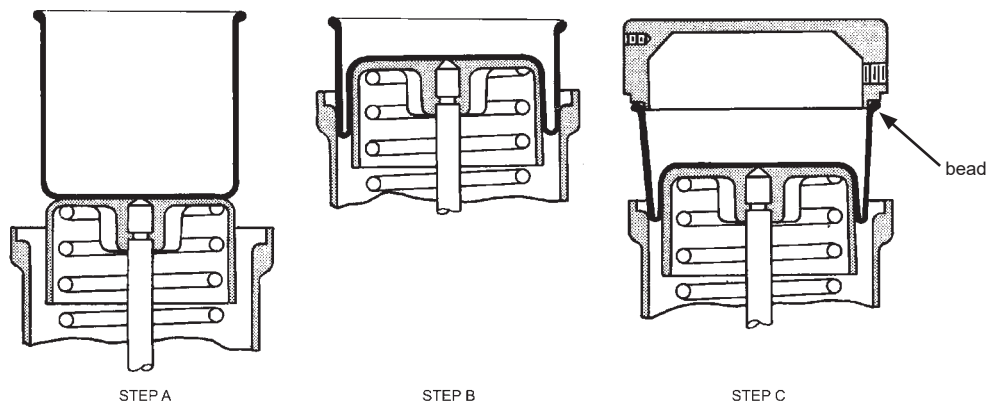

Figure 7 - Method 1
- H-1.** The inscription "Piston Side" is located on the diaphragm (40). If used, apply cement to this side of the diaphragm.
- I-1.** Center and adhere diaphragm (40) to the top of the piston (43) (see Figure 7-Method 1, Step A).
- J-1.** Roll the diaphragm (40) inside the spring barrel (38) until the diaphragm is partially engaged in the spring barrel (see Figure 7-Method 1, Step B).